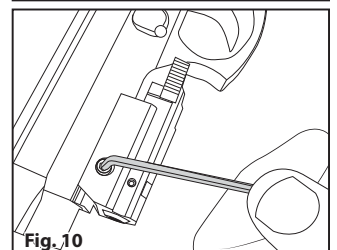

Fig. 10
- Insert clamping screw into laser body and tight with the Allens wrench until snug (Fig. 10).